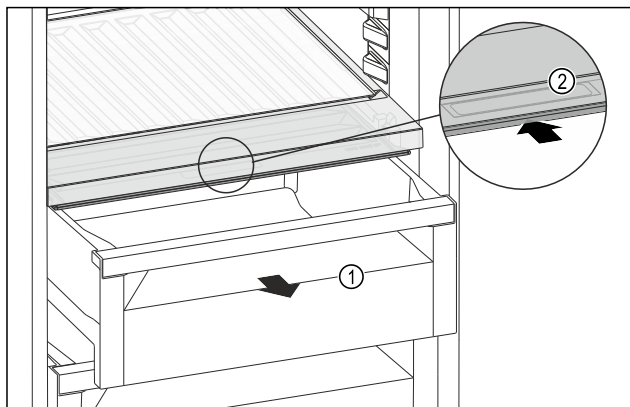

Fig. 153
- Pull out the drawer Fig. 153 (1).
- Grasp the recessed grip Fig. 153 (2) on the compartment lid and push the compartment lid backwards at the same time.